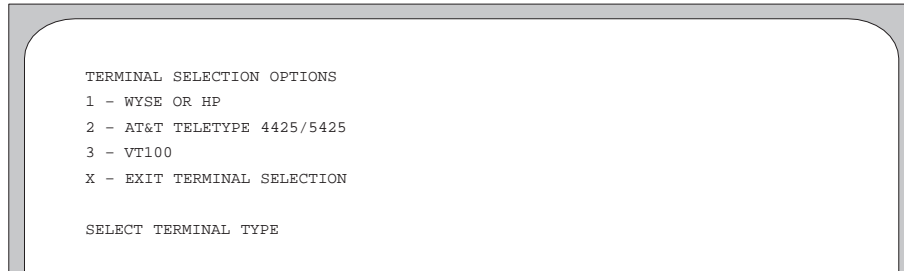

Figure 5-4. The TERMINAL SELECTION OPTIONS Menu.
1. At the **ENTER BOOT COMMAND:** prompt, type **Ctrl+D**, then **R**. (You can access this utility when the service and engineering bits are both off.) The TERMINAL SELECTION OPTIONS screen appears, as shown in Figure 5-4.